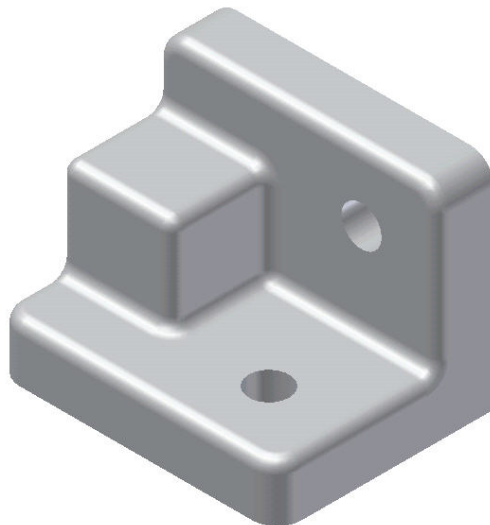

Figure 30
- The finished part should look like Figure 30.